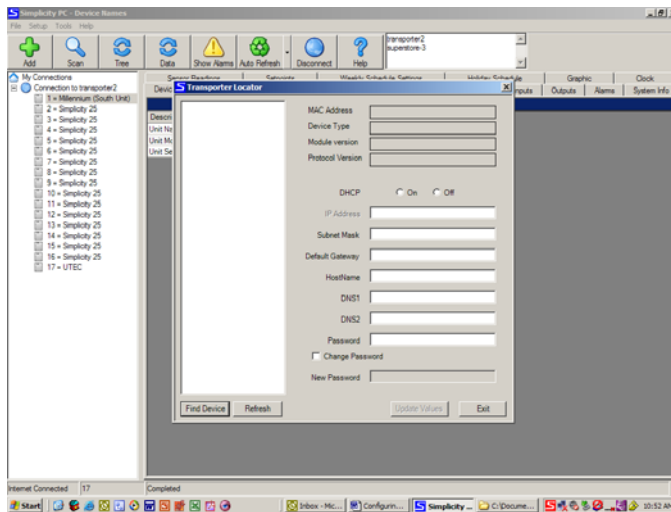

Figure 4 Transporter Locator Dialog Box
1. Starting at the main Simplicity PC screen, select “Tools”>”Find Transporters”. This will bring up the “Transporter Locator” dialog box as shown in figure 4.